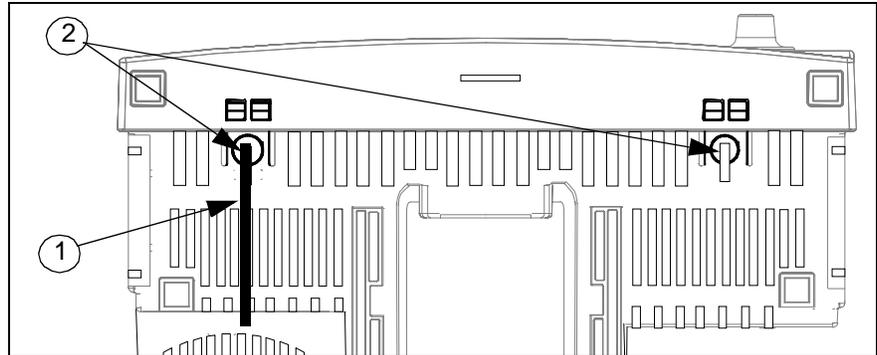
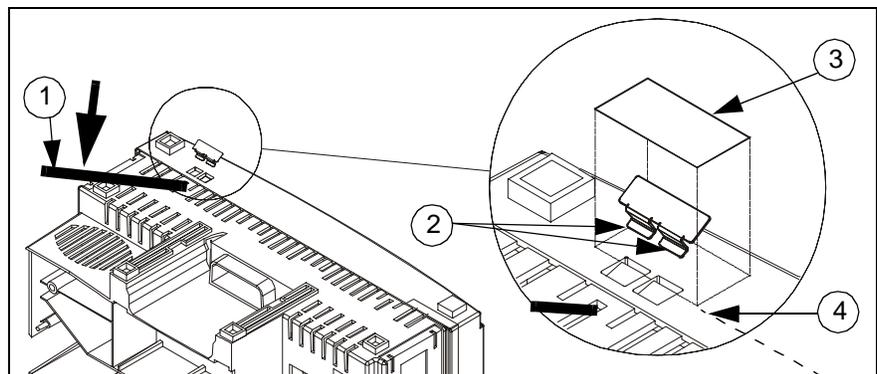

Figure 3-14 SC 7000 / SC 9000XL Patient Monitor Bottom View
Figure 3-15 Installing Security Clip and Tape
- 4) Turn monitor bottomsides up. See Figure 3-14.
- 5) Insert small screwdriver or similar tool (① in Figure 3-14 and Figure 3-15) into slot in tab (② in Figure 3-14) to use as a lever.
- 6) Apply slight pressure in direction illustrated by heavy arrow in Figure 3-15 to assure tab of rear housing is securely engaged in front bezel.
- 7) Keeping pressure on lever (① in Figure 3-15), insert offset tongues of security clip (② in Figure 3-15) vertically into space between bezel and end of locking tabs in rectangular cutouts in bezel.
- 9) Align peel-and-stick label (③ in Figure 3-15) along edge of rectangular tab slots (along line ④ in Figure 3-15), and press down firmly on tape to secure clip to bezel.